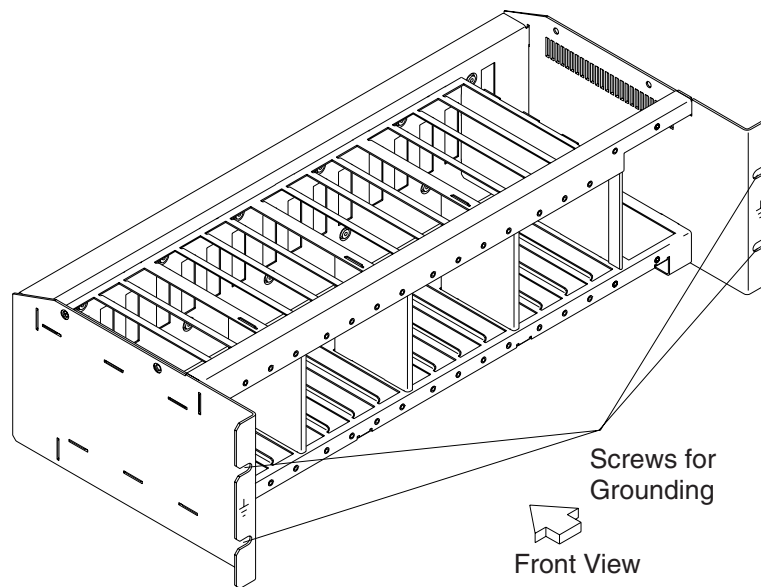

Figure 0-8. LCB Grounding Via Screws
- Check that electrical continuity is assured between the LCB housing and the controller expansion frame, if LCBs are present. This operation must be performed before any network connection (see Figure 0-8 on page xxviii).